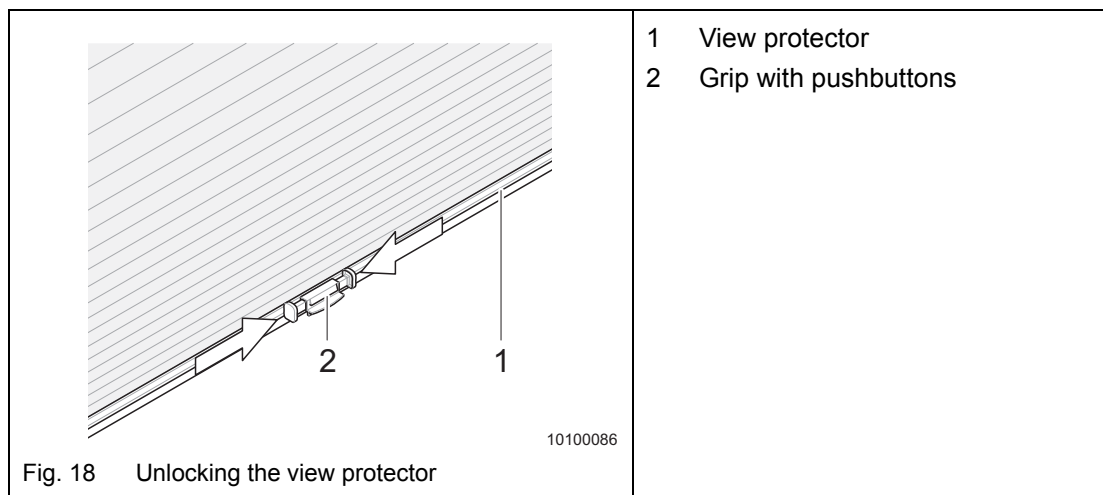

Fig. 18 Unlocking the view protector
The view protector (Fig. 18/1) is located at the top of the windscreen.
- ➔ Press the pushbuttons in the grip (Fig. 18/2) in the middle of the blind together.
- ➔ Check the catches are engaged in the grip (Fig. 18/2) when open.